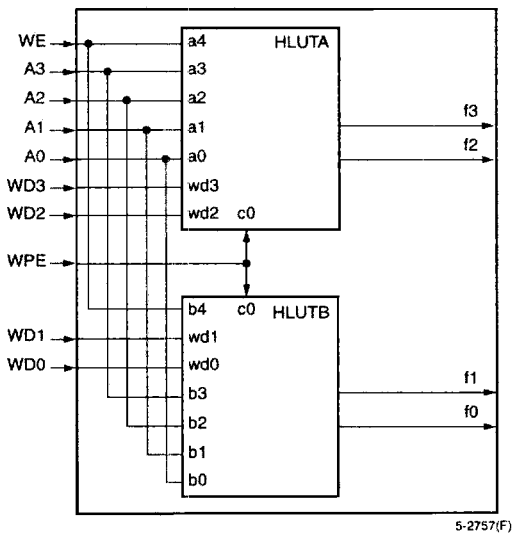

Figure 12. MA/MB Mode—16 x 4 RAM
Figure 12 illustrates the use of the LUT for a 16 x 4 memory. When the LUTs are used as memory, there are independent address, input data, and output data buses. If the LUT is used as a 16 x 4 read/write memory, the a[3:0] and b[3:0] ports are address inputs (A[3:0]). The a4 and b4 ports are write-enable (WE) signals. The wd[3:0] inputs are the data inputs. The f[3:0] data outputs can be routed out on the o[4:0] PFU outputs or to the latch/FF d[3:0] inputs.